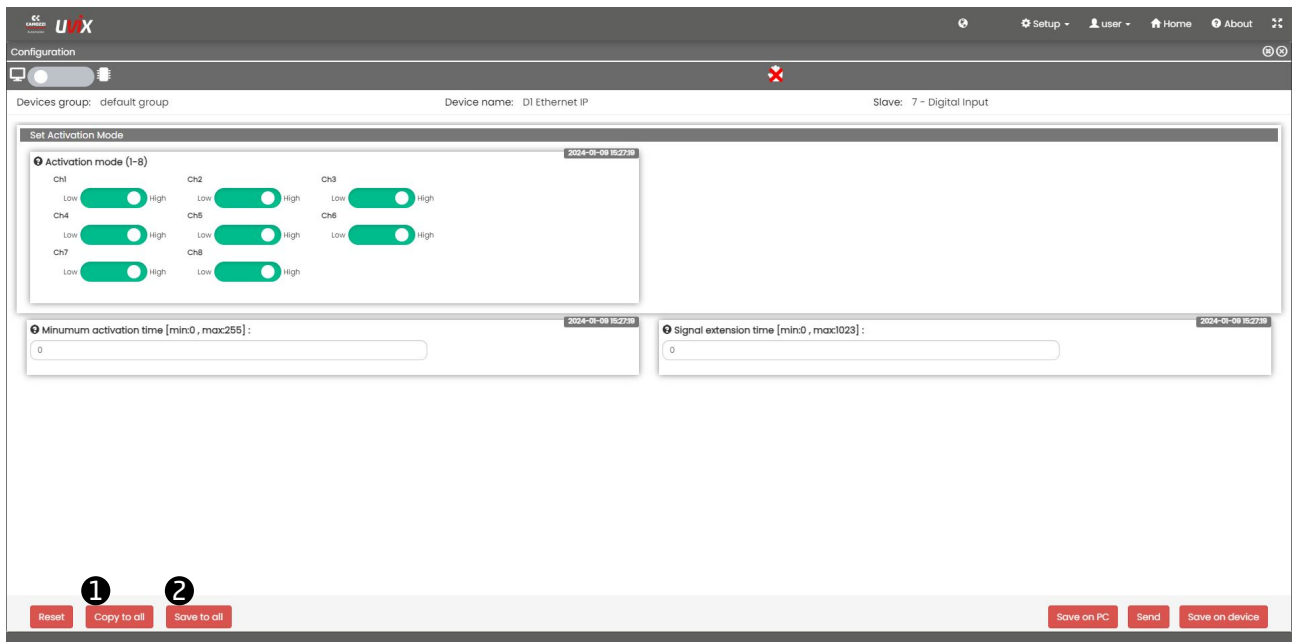

Figure 6.40: Example
2. Click on the "🔗 Copy to all" command in the bottom-left section (Figure 6.40).
Finally, press the " 2 Save to all" command in Figure 6.40 to save the new configurations permanently.